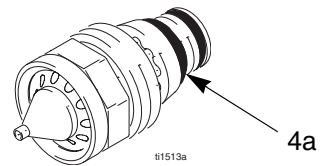

Fig. 19. Nozzle Conductive O-Ring
5. Make sure the metal contact (C) in the barrel, the nozzle contact ring (4a, FIGURE 19), and the electrode contacts (E) are clean and undamaged.